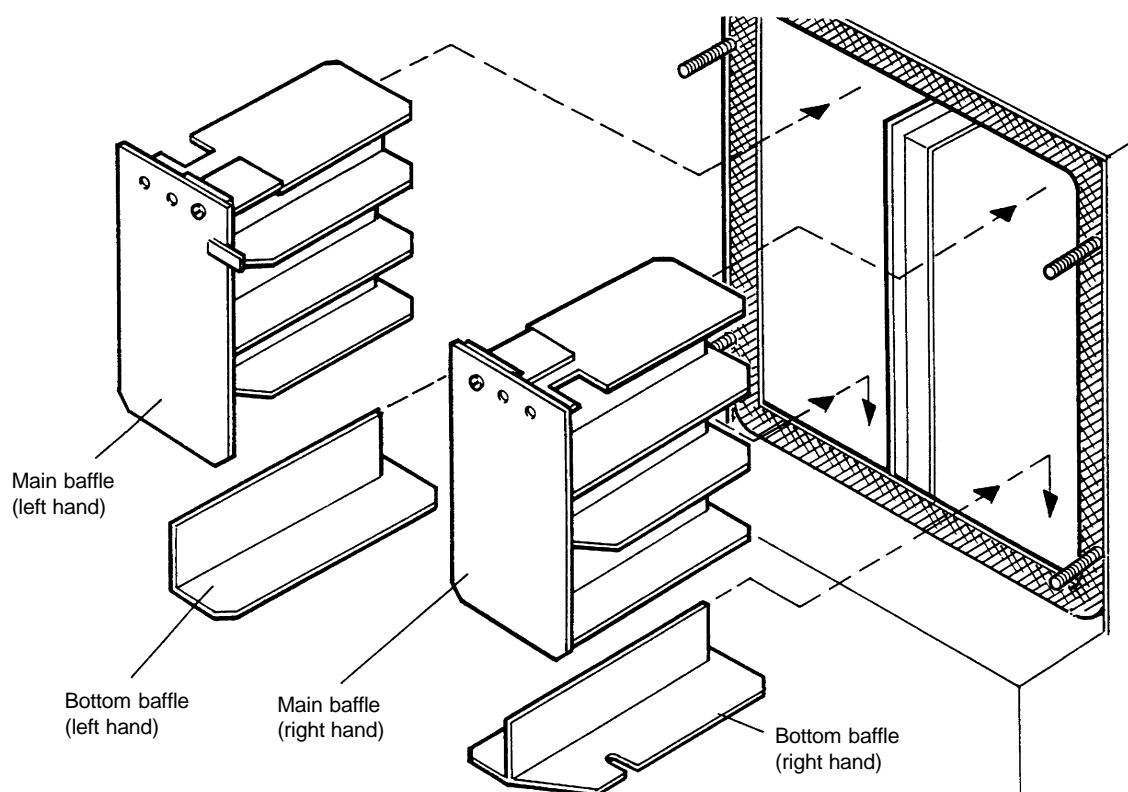

Fig. 34 - Combi 90 baffle positions
See Fig. 34
- 2 Remove the baffles as shown in Fig. 34.
- 6 Replace the baffles, ensuring they are correctly fitted. See Fig. 34.